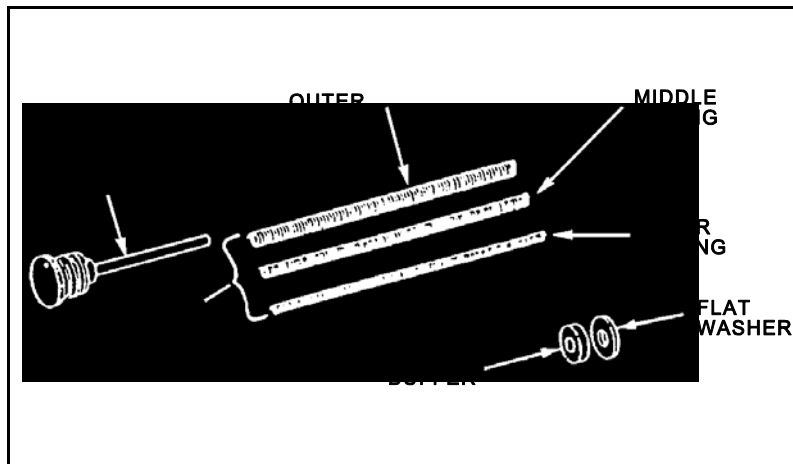

Figure 1. Drive spring and guide assembly disassembled.
- a. Drive spring and guide assembly (Figure 1).